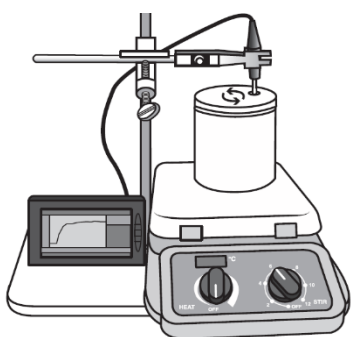

Figure 1. Calorimeter setup.
Many experiments in thermochemistry involve a calorimeter. A calorimeter is simply a container that insulates a reaction from the surrounding environment. Usually, a calorimeter will have a water bath that changes temperature; up or down depending on whether the reaction is exothermic or endothermic, or whether an object is placed in the bath that is hotter or colder than the water. For many aqueous reactions, **the water bath is the solution itself**, as in the second part of this lab. Your calorimeter (see Figure 1) will consist of a thick Styrofoam cylinder closed on one end plus a Styrofoam lid (or one plastic lid plus two Styrofoam coffee cups, one nestled inside the other). Styrofoam is an excellent insulator, but with time, heat will slowly leak out of the cup. By plotting temperature of the solution versus time (see Figure 2), you will be able to extrapolate to determine the final temperature of the reaction more precisely. You will collect the data using a LabQuest Data Collector with a temperature probe. This system will collect the data for you and graph it.
7. Setup the equipment as shown in Figure 1, minus the temperature probe (do not remove it from the sausage yet):
8. Make sure the sausage reaches a temperature 2.0°C or below - add more ice if needed. Has it been at least 12 minutes since you placed the sausage in the ice slush? If so, record the temperature of the sausage, which is being measured by the LabQuest Data Collector, in Data Table 1 item 10 -  $T_i$  initial temperature of sausage.